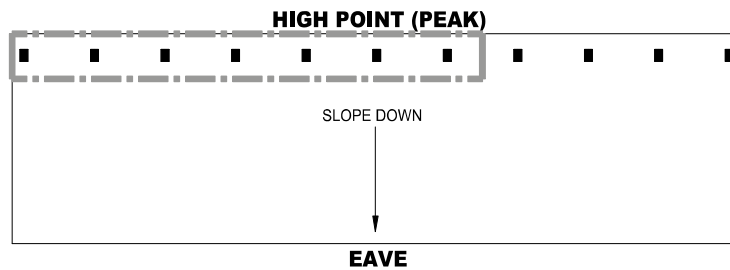

FIGURE 25A
- Calculate the most hydraulically demanding 7 contiguous DS sprinklers. See Figure 25A.